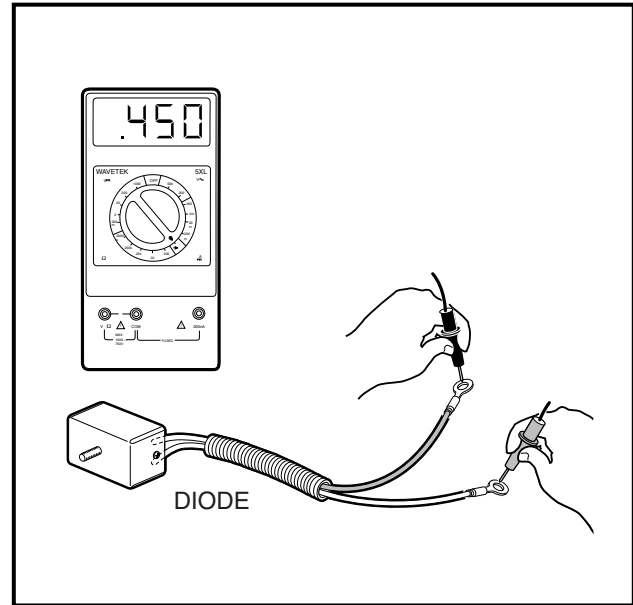

Figure 11-38 Diode Test – Probes Reversed
5. Reverse the multimeter probes and note the reading. With the black (–) probe of the multimeter to the red lead of the diode and the red (+) probe of the multimeter to the white lead, the meter should read approximately 450 mV, however, a range of 400-500 mV is acceptable (**Figure 11-38, Page 11-31**).